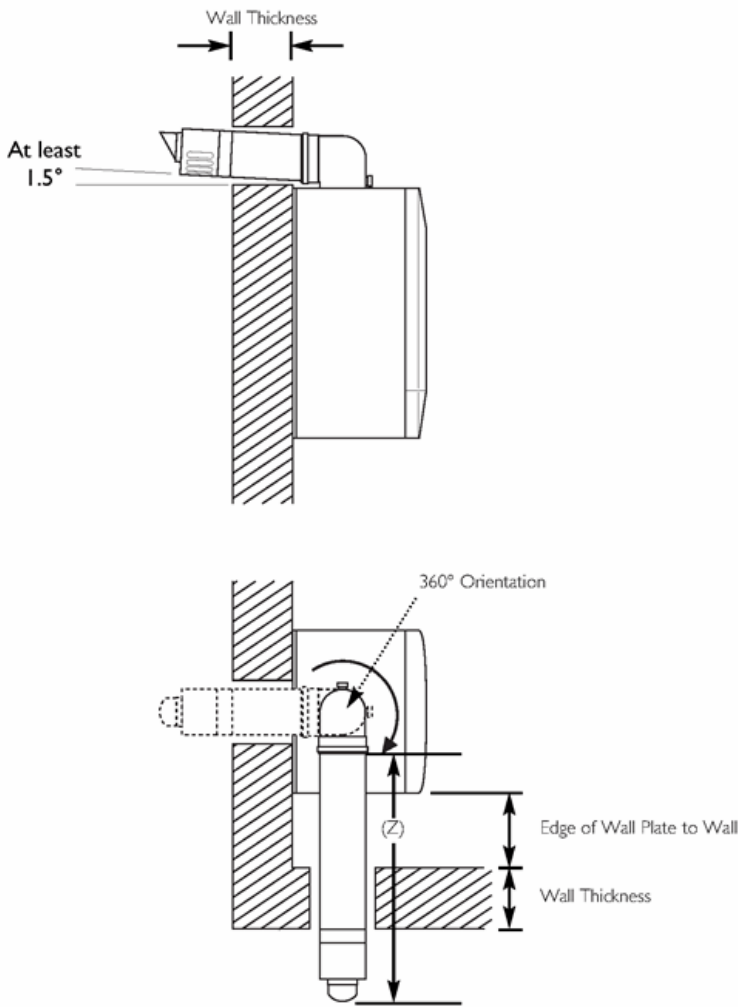

Fig. 26
2. **For rear exit** - measure the wall thickness (Fig. 26) and to this dimension add 181mm.
4. **For side exit** - measure the distance from the edge of the wall plate to the inner face of the wall (Fig. 26) and to this dimension add the wall thickness + 250mm.